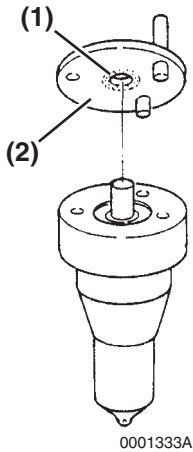

Figure 7-52
6. Inspect the sealing surfaces (**Figure 7-52, (2)**) between the valve stop spacer and nozzle body for nicks or scratches. Check the contact area between the valve stop spacer and the nozzle valve (**Figure 7-52, (1)**) for scoring, or pitting. Use a magnifier glass to inspect the area.